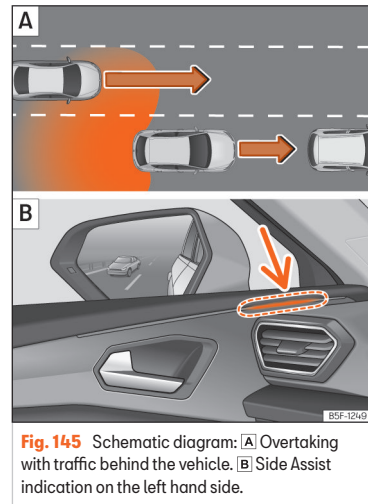
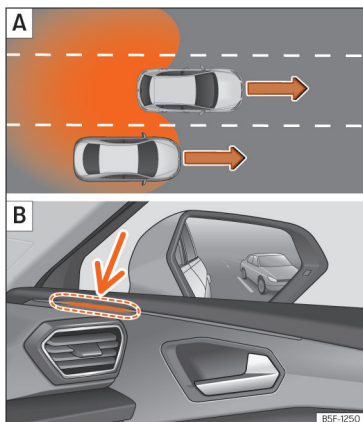

Fig. 145 Schematic diagram: **A** Overtaking with traffic behind the vehicle. **B** Side Assist indication on the left hand side.
Fig. 146 Schematic diagram: **A** Overtaking in the central lane and then joining the right lane. **B** Side Assist indication on the right hand side.
In the following situations, an indication will be displayed in the control lamp »»» **Fig. 145 B** (arrow) or »»» **Fig. 146 B** (arrow):
- When being overtaken by another vehicle »»» **Fig. 145 A**.
- When passing another vehicle »»» **Fig. 146 A** with a speed differential of approx. 10 km/h (6 mph). If the vehicle is passing at a considerably higher speed, no indication will be displayed.